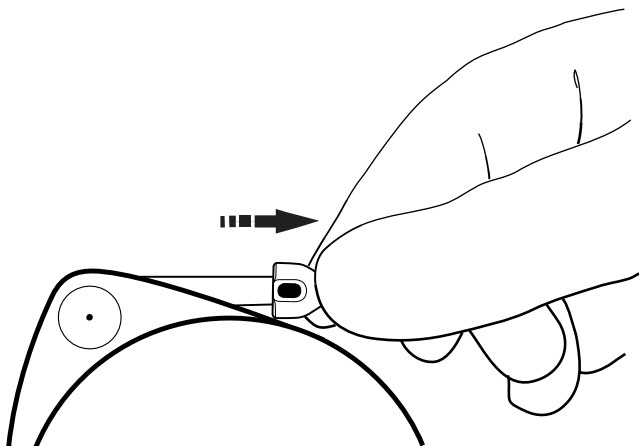

Figure 20. Tug on connector to check for proper attachment to pump.
- b. Tug as if to remove the connector from the pump. The connector should feel firmly attached (Figure 20).